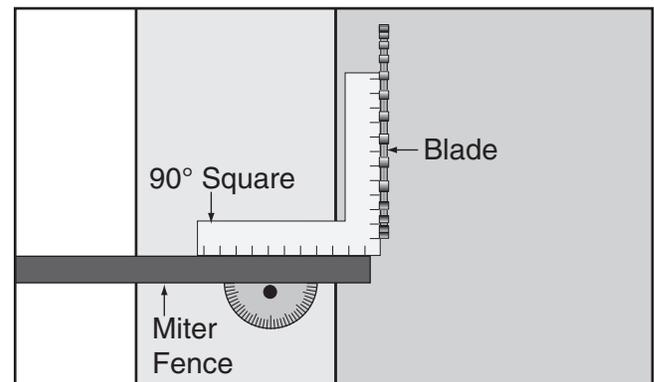

Figure 114. Using a square to adjust the miter fence 90° to the blade.
4. Place a square against the blade body (do not touch the blade teeth), and position the fence so it is evenly touching the length of the square, as illustrated in **Figure 114**.